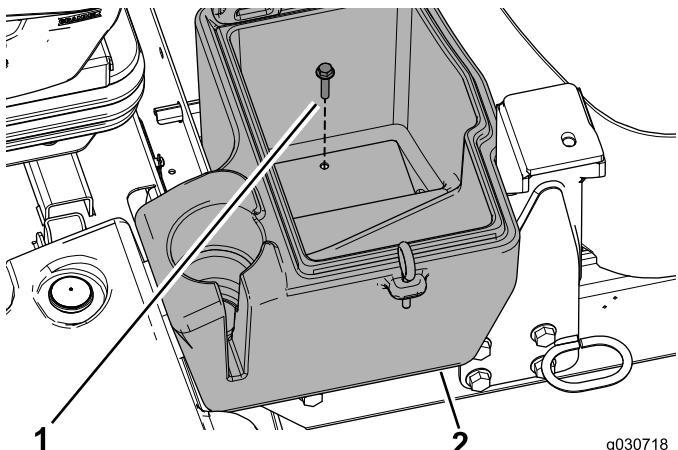

Figure 21
4. Use the bolt (5/16 x 1-1/2 inches) to secure the storage compartment to the machine (Figure 21).